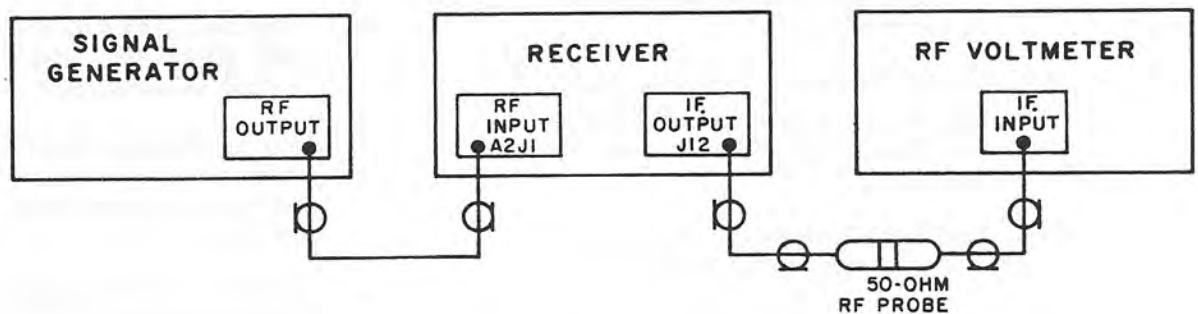

Figure 4-1. If. Gain and Bandwidth Performance, Test Setup
(1) A signal generator, an rf voltmeter, and a 50-ohm rf probe are needed for this test.
(2) The test equipment is set up and connected as shown in figure 4-1.